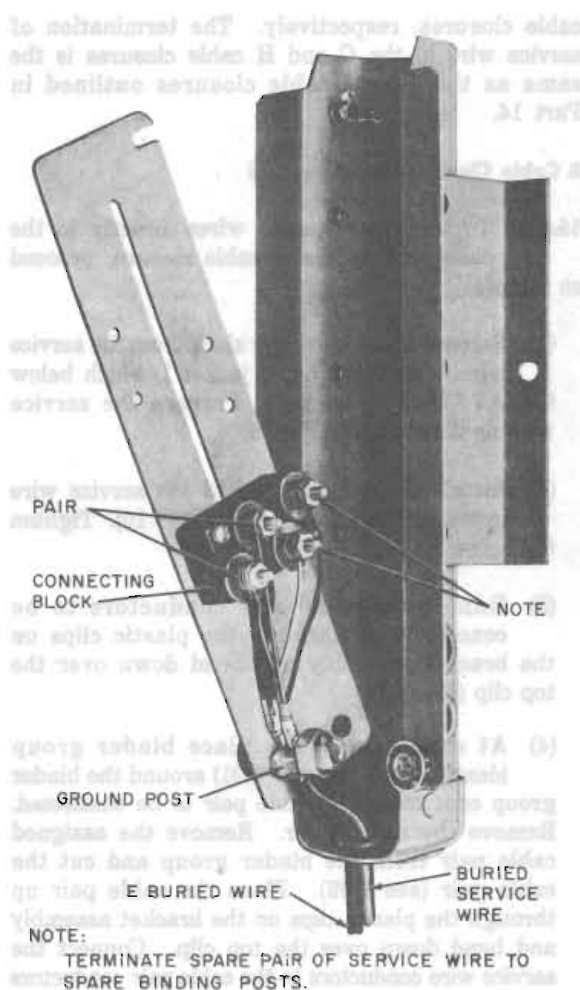

Fig. 58—Buried Wire and Service Wire Terminated—E Buried Wire Terminal
(3) Place the metallic shield of the service wire under the nut of the ground post. Tighten the nut securely. Terminate the buried wire conductors and the pair of service wire conductors on the proper binding posts. The service wire spare pair of conductors is terminated on the spare binding posts (Fig. 58).